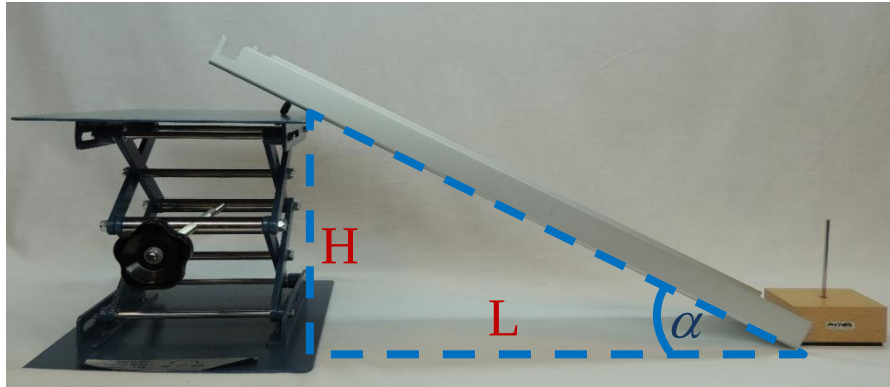

Figure 4.13: Measuring the angle of inclination.
- 4- Use the measuring tape (6) to measure the tangent of the inclination angle as shown in Figure 4.13.